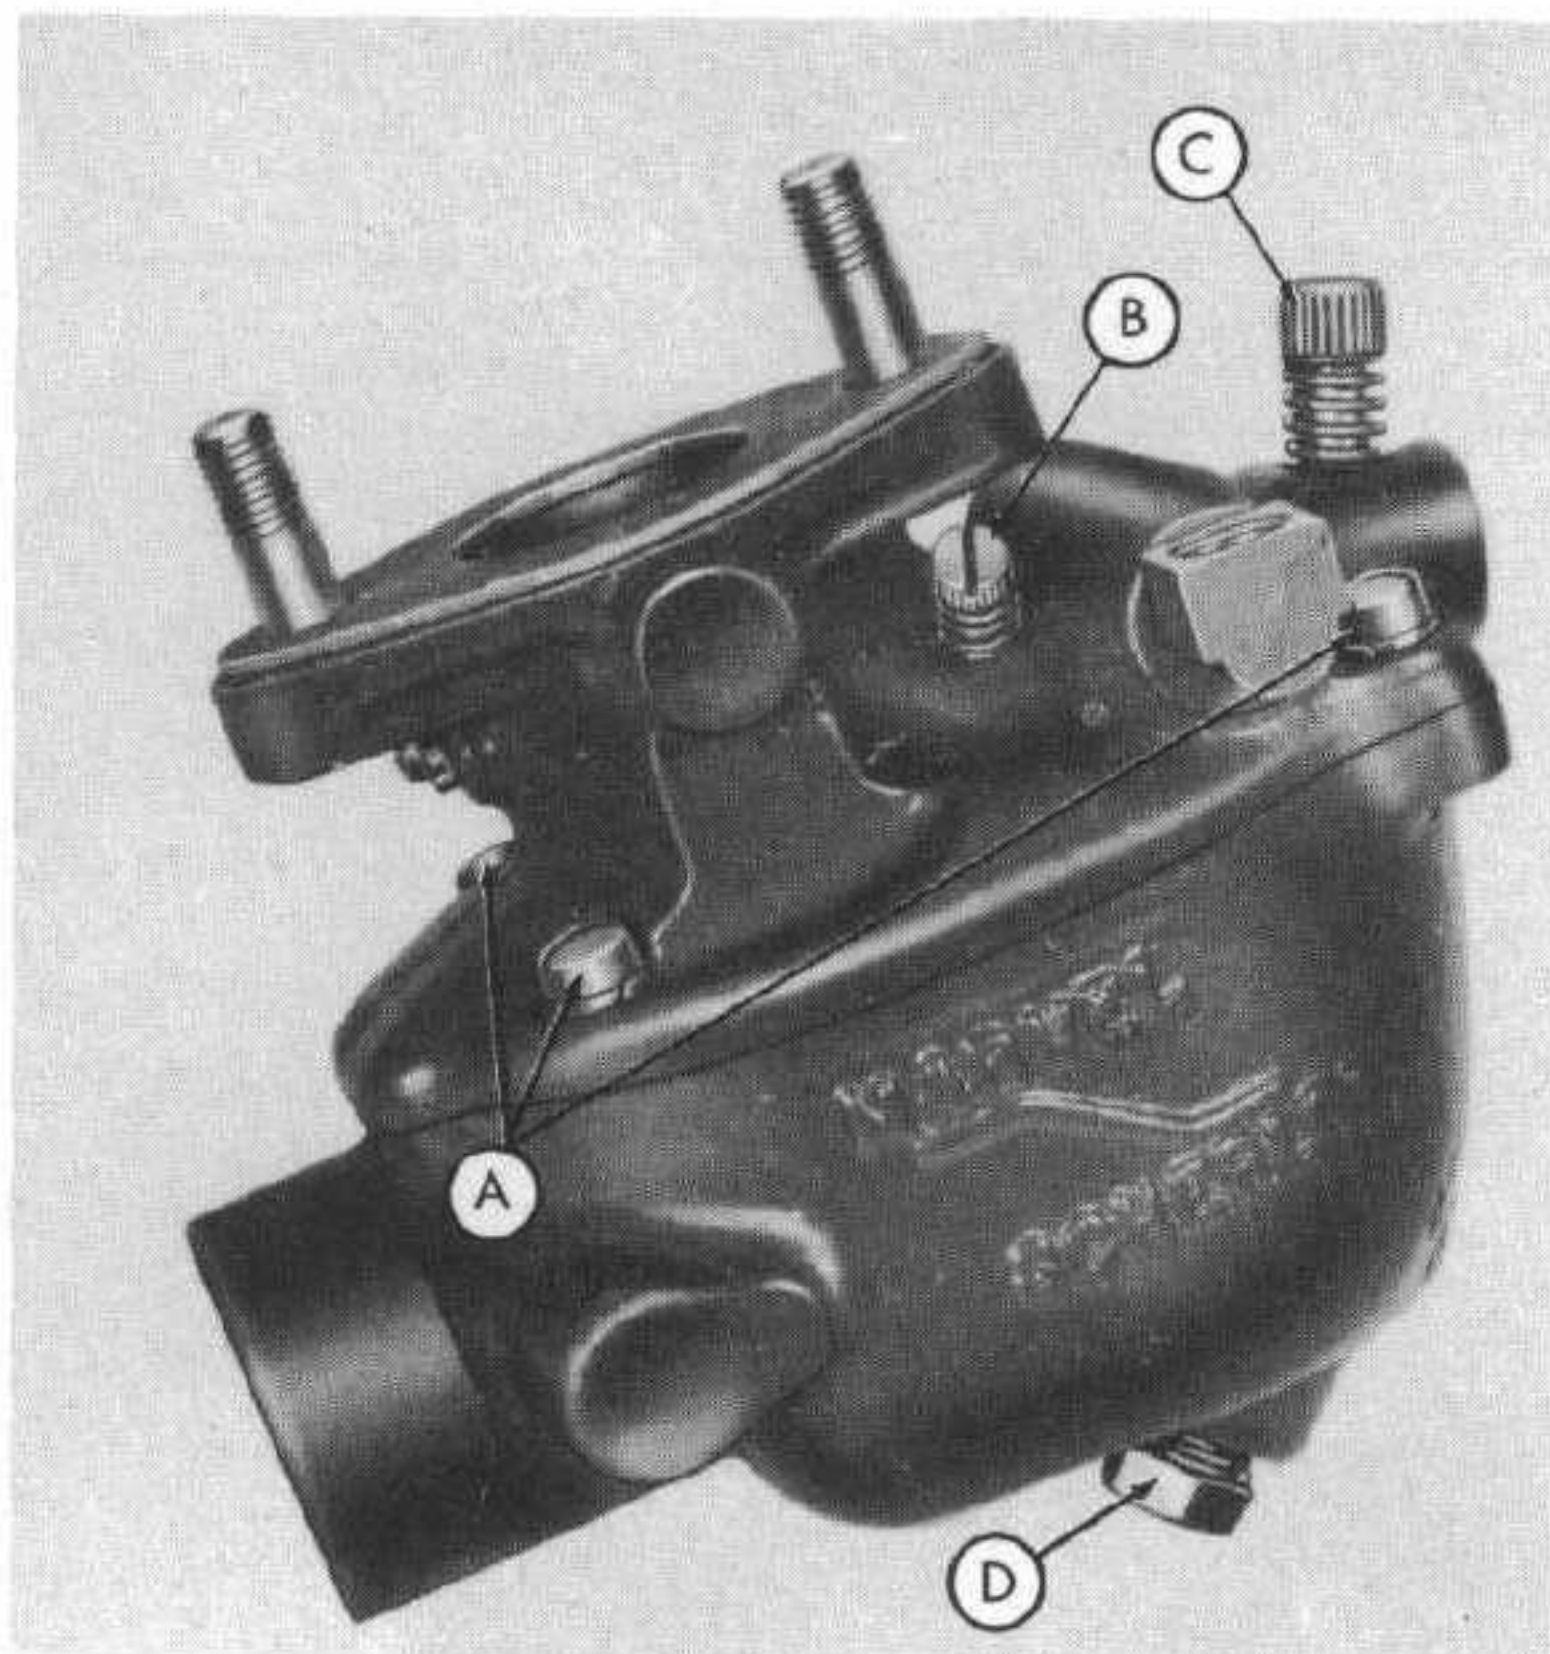

Fig. 2
- Step 1—Remove the main adjustment needle and spring (C-Figure 2).
- Step 2—Remove the idle adjusting needle and spring (B-Figure 2).
- Step 3—Remove the drain plug (D-Figure 2).
- Step 4—Remove the four screws and lockwashers (A-Figure 2) that secure the carburetor body to the throttle body and separate the two.